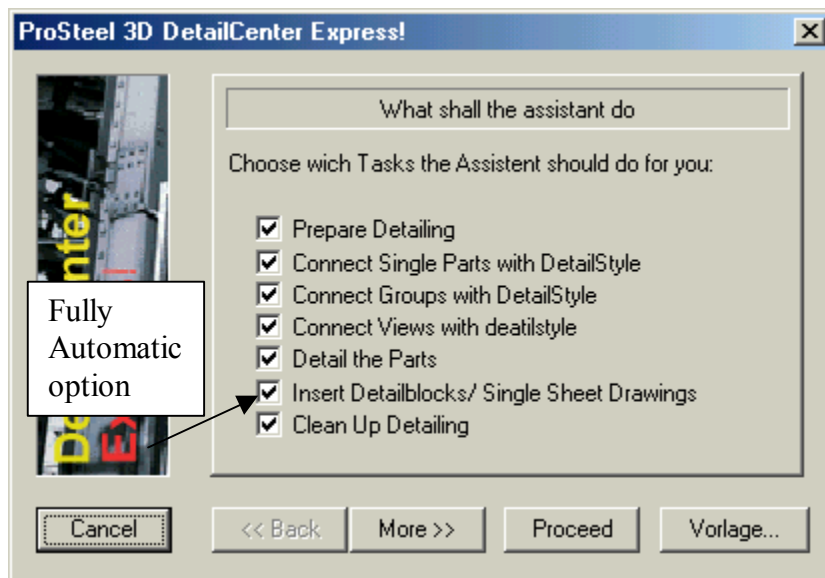

Fig. 30
2. This cuts out all the steps up till Item 17 in the Manual process and makes them Automatic. It will cut out all the steps and become fully automatic and place one detail per drawing including a full material list if you choose that option in the centre Fig. 30. However all the subpart drawings will be on separate drawings. You can choose the sheet size or let the computer choose it for you.